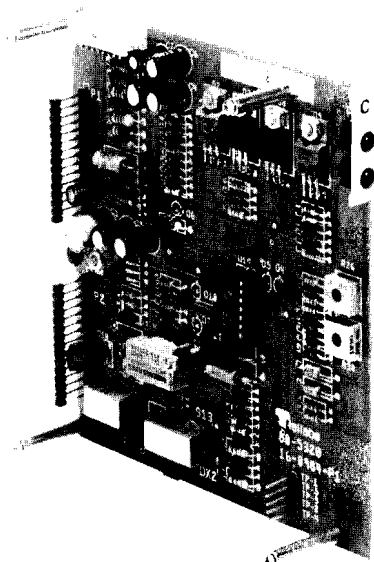

figure 1. 6008C DX-to-E&M Signaling Converter subassembly
1.01 The 6008C DX-to-E&M Signaling Converter plug-on subassembly (figure 1) provides bidirectional conversion between DX (duplex) signaling, which is extended-range E&M signaling over DX signaling leads (see note), and the type of E&M signaling used by a carrier channel (or a PBX). An electronic DX signaling unit, the 6008C operates end-to-end either with conventional relay-type DX signaling units or with electronic DX units. The 6008C is designed for optional use on the Tellabs 6131 2Wire-to-4Wire or 4Wire-to-4Wire Terminal Interface Module.